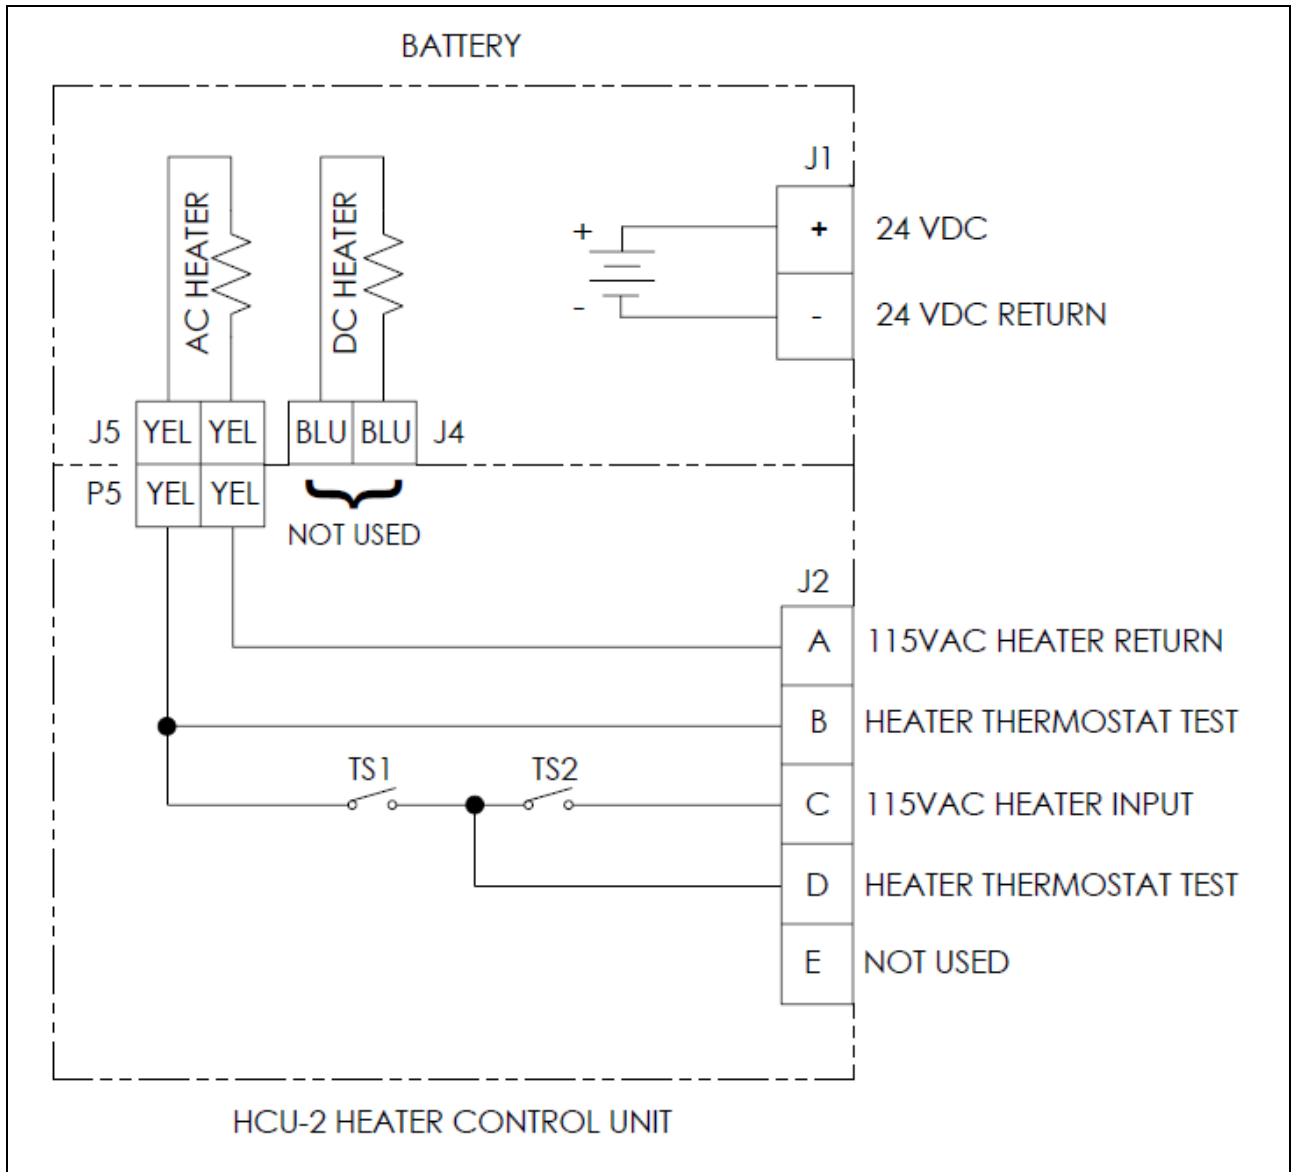

Figure 1. Schematic Diagram for HCU-2
- b. Refer to Figure 1 for electrical schematic of HCU and Table 1 for a list of test equipment.